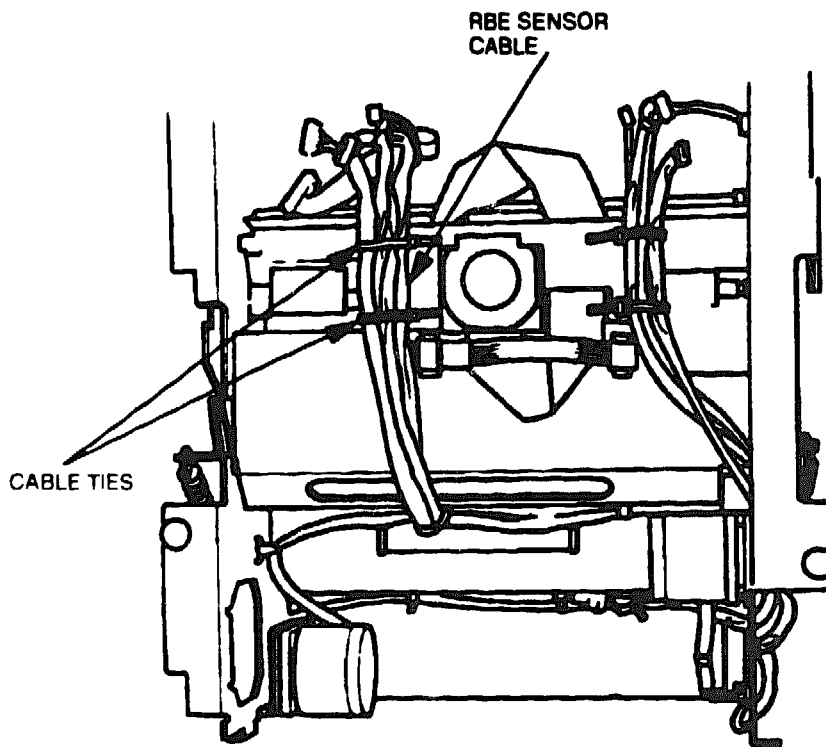

Figure 6-80 RBE Sensor Cable Ties
6. Place the mechanism unit on its side on the worktable to access the bottom of the unit. Then remove the two cable ties that secure the cables to the lower base plate (see Figure 6-80).